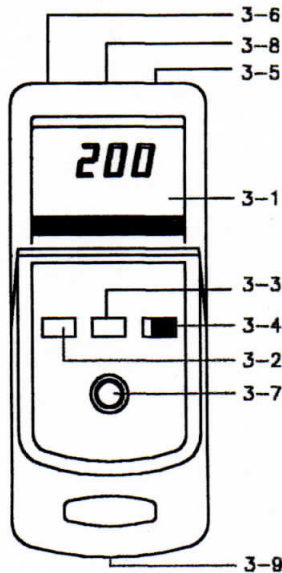
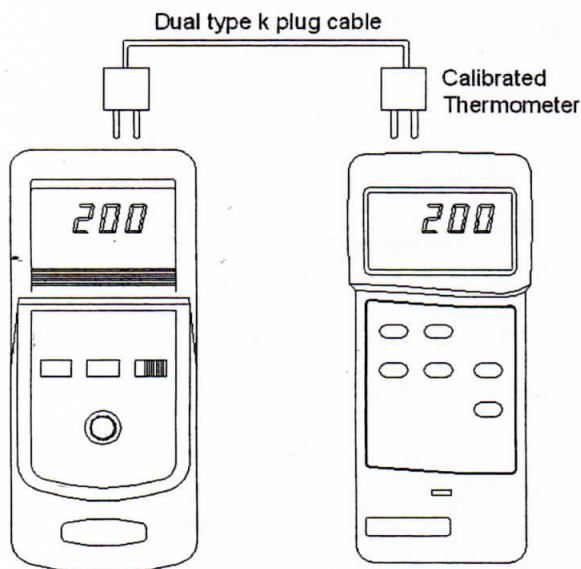

Fig. 1
Fig. 2
- 1) Slide the " OFF/MEASURE/CALIBRATION Switch " (3-4, Fig. 1) to the " MEASURE " position.
- 2) Select the desired unit of measurement (°C or °F) using the °C/°F Button " (3-3, Fig. 1). The LCD will display the selected unit.
- 3) Insert one type K thermocouple probe into the " Measurement Socket " (3-6, Fig. 1). The LCD will display the temperature measured by the connected probe.
- 4) To hold a displayed measurement press the "HOLD button" (3-2, Fig. 1). The LCD will display the held value and the "DH" annunciator will appear. To release the hold function and resume normal measurements press the " Hold button" again, the "DH" annunciator will disappear.
- a) *When connecting a probe plug to the " Measurement socket" (3-6, Fig. 1) ensure that correct polarity is observed.*
- 1) Slide the " OFF/MEASURE/CALIBRATION Switch " (3-4, Fig. 1) to the " CALIBRATION " position.
- 2) Determine temperature unit to $^{\circ}\text{C}$ or $^{\circ}\text{F}$ by pushing the " $^{\circ}\text{C}/^{\circ}\text{F}$ Button " (3-3, Fig. 1). The LCD will show the unit of " $^{\circ}\text{C}$ " or " $^{\circ}\text{F}$ ".
- 3) Prepare the optional " Dual type k plug cable ". One plug insert into the " Calibration Output Terminal " (3-5, Fig. 1), the other plug insert to the calibrated thermometer. Please refer Fig. 2.
- 4) Adjust " Calibration Adjust Knob " (3-7, Fig. 1), the calibrator will generate the " simulation type K thermocouple signal " according the display value & engage to the calibrated thermometer.
The instrument features an RS232 output via 3.5 mm Terminal (3-8, Fig. 1).
- 2) Slide the " Battery Cover " (3-9, Fig. 1) away from the instrument and remove the battery.